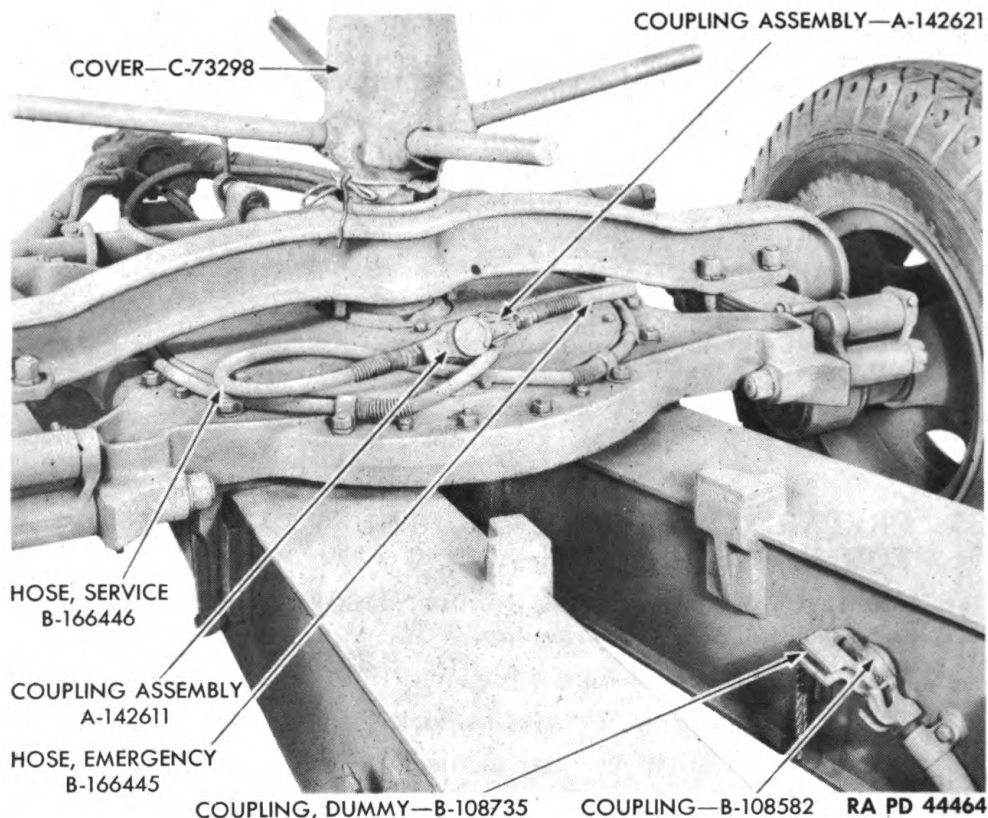

Figure 26—Limber Hoses—Disconnected
(1) Place a heavy timber under trails just below air coupling. Remove cover C73298 from limber lifting mechanism (fig. 26).
(2) Disconnect limber air hose coupling assemblies A142611 and A142621 from couplings B108582 on trails. Place dummy couplings B108735 in position on couplings B108582 to prevent dust or dirt from